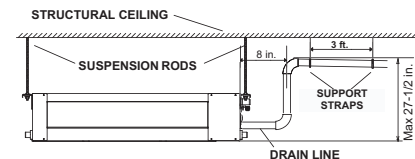

Fig. 15 —Condensate Piping
- The highest point in the condensate piping should be as close to the unit as possible. See Fig. 15.
- Condensate piping should slope downward in the direction of condensate flow with a minimum gradient of 1 inch per 100 inches. See Fig. 15.